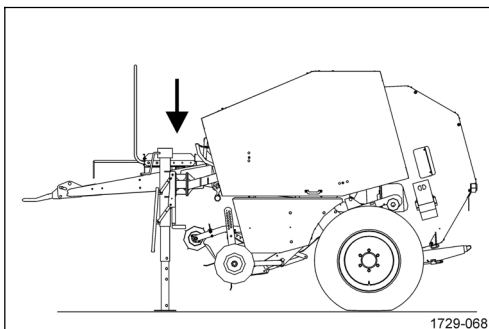

Figure 7
**Attention, danger of falling!** Never step onto the maintenance platform (Figure 7), while the machine is in motion. Before stepping onto the maintenance platform: stop machine, switch-off power take-off shaft and tractor motor and wait for standstill of the machine.